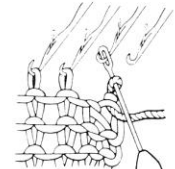

Fig.58-4
- Transfer this single stitch onto the empty second needle. (Fig.58-4)